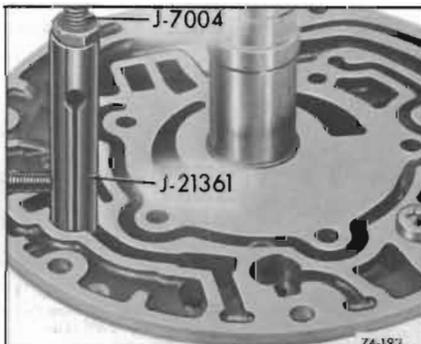

Figure 74-193
9. Remove seat, valve and spring from cooler by-pass valve. Use Tool J-21361 to remove seat from bore in pump cover. See Figure 74-193.